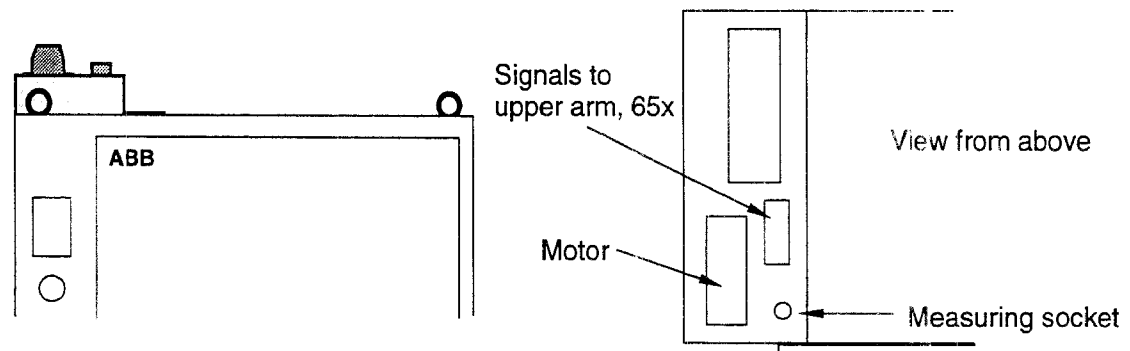

Figure 43 Cable connections on the roof of the cabinet.
- 122 Cable connections on roof (see Figure 43).